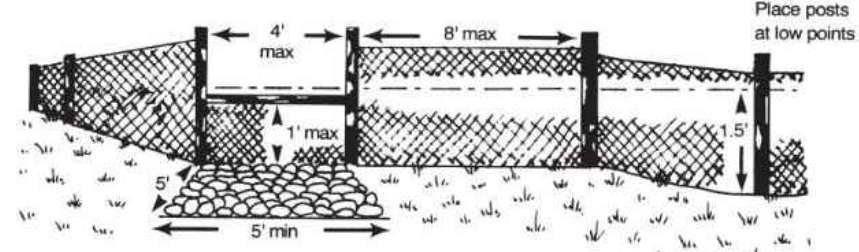

Figure 6.62c Perspective of reinforced, stabilized outlet for sediment fence.
- Reinforced, stabilized outlets** (Figure 6.62c): located to limit water depth to 1.5 ft measured at lowest point along fence line. Outlet allows safe storm flow bypass.
To use sediment fence effectively, provide access to the locations where sediment accumulates and provide reinforced, stabilized outlets for emergency overflow (Figure 6.62c).
Set outlet elevation so that water depth cannot exceed 1.5 ft at the lowest point along the fence line (Figure 6.62c).
Set fabric height at 1 ft maximum between support posts spaced no more than 4 ft apart. Install a horizontal brace between the support posts to serve as an overflow weir and to support top of fabric. Provide a riprap splash pad as shown in Figure 6.62c.